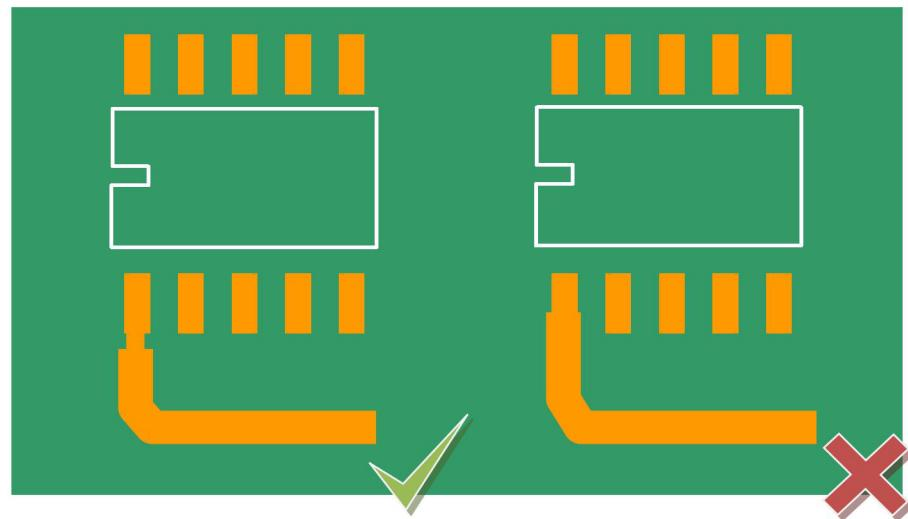
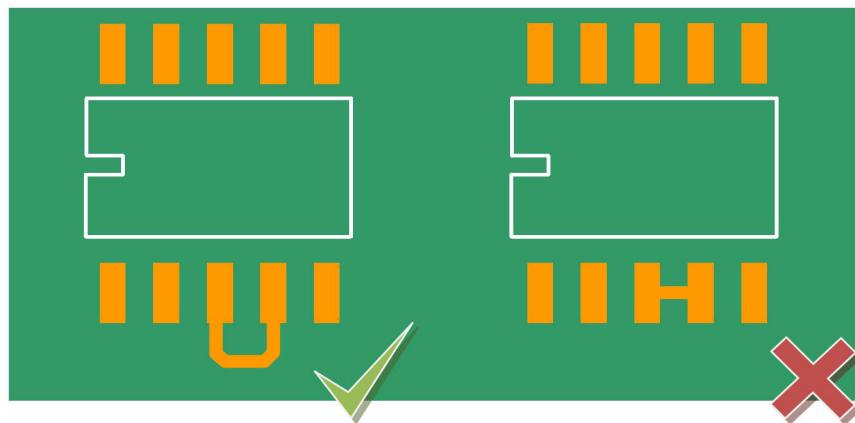

Figure 12: Connecting the trace and pad when the trace width is larger.
Figure 13: Connecting adjacent pads of fine pitch components.
- [27] When the width of the trace is wider than the pad, the trace should not overlap the pad. The trace width should be reduced at the point of contact as shown in figure 12. When adjacent pins of fine pitch components need to be connected, the trace should not run directly between the pads. Instead, it should run outside of the row and connect as shown in figure 13.